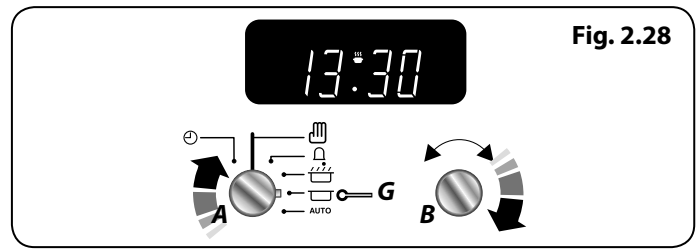

Fig. 2.28
1. Turn the **Timer (A)** knob to the **Stop Time (G)** setting (**Fig. 2.28**).
2. Turn the **Adjusting (B)** knob clockwise, the display will show the current time of day (**Fig. 2.28**).